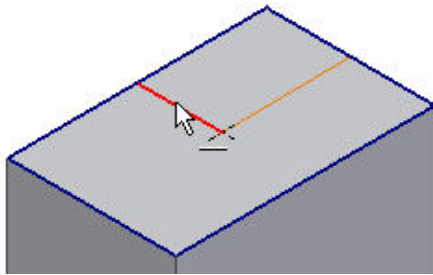

Figure 12
12. Place a **Point, Hole Center** somewhere on the sketch plane and position it in the center of the face using construction lines and Horizontal and Vertical constraints as shown in Figures 12 and 13.